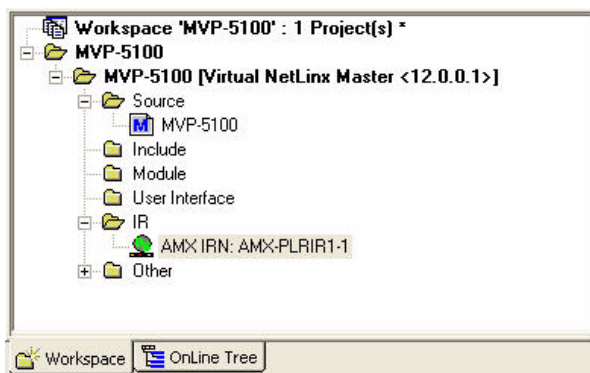

FIG. 82 NetLinx Studio Workspace pane with IR file
5. The selected IR file now appears in the NetLinx Studio Workspace (FIG. 82).